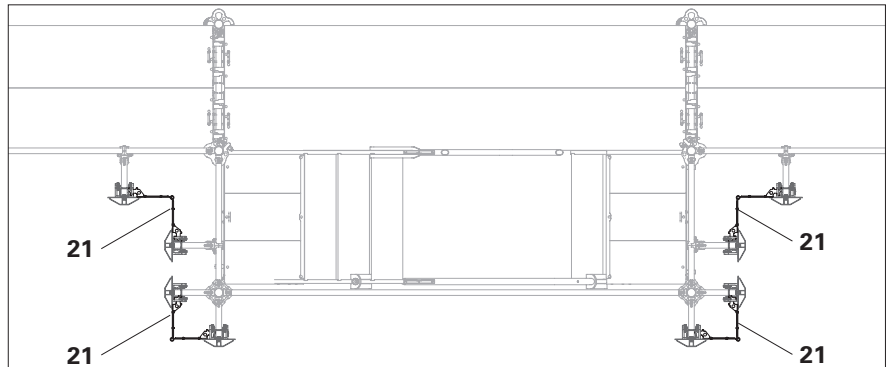

Fig. D1.03
2. Open the multi-corner and place the 2 x 4 supports (**21.1**) from the inside onto the handrail (**1.3**) of the support rails. (Fig. D1.03)